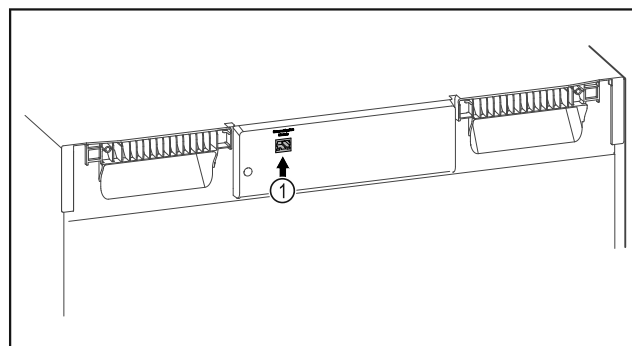

Fig. 116
- SmartModule Fig. 116 (1) is in use.